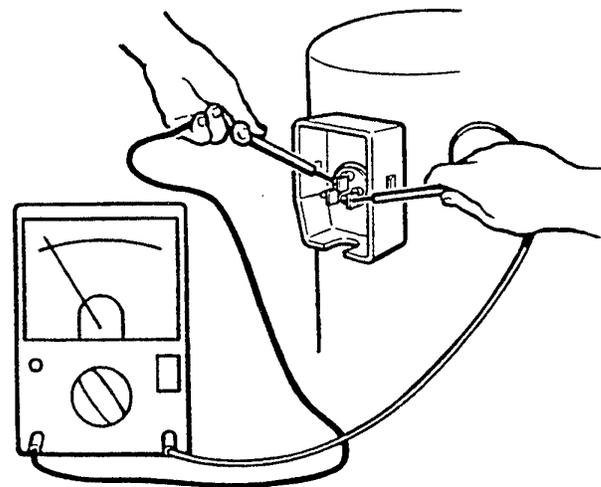

Figure 31. Ohmmeter and Connections
4. Connect an ohmmeter to terminals C and R. Resistance through the run winding should be 3.12 to 3.60 ohms with the ohmmeter set at ohms x 1 (Figure 31).